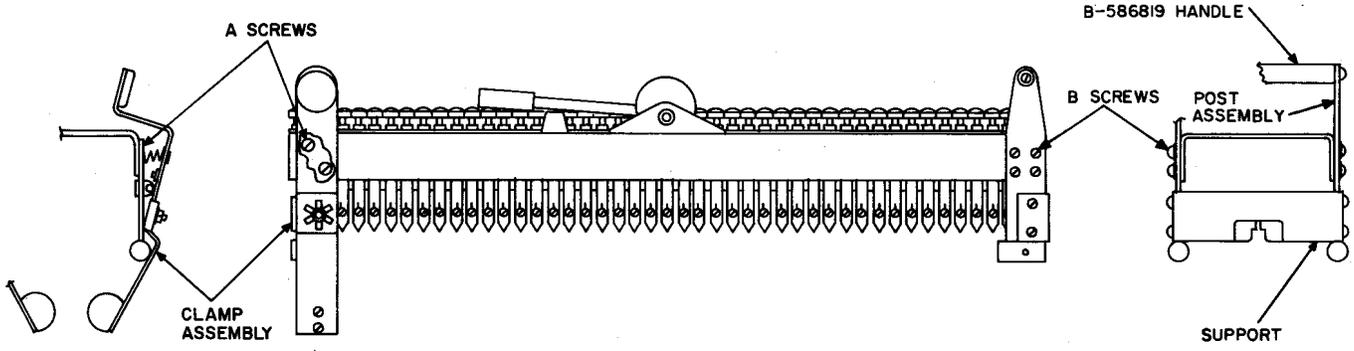

Fig. 8—B Test Connector—Preparation Before Conversion
- (1) Remove clamp mounting screws A (Fig. 8) from both sides of the B test connector and discard entire clamp assemblies.
- (2) Remove the B-58619 handle and save for reuse on the new post assemblies.
- (3) Remove post mounting screws B (Fig. 8) on both sides of connector and discard the support and post assemblies.